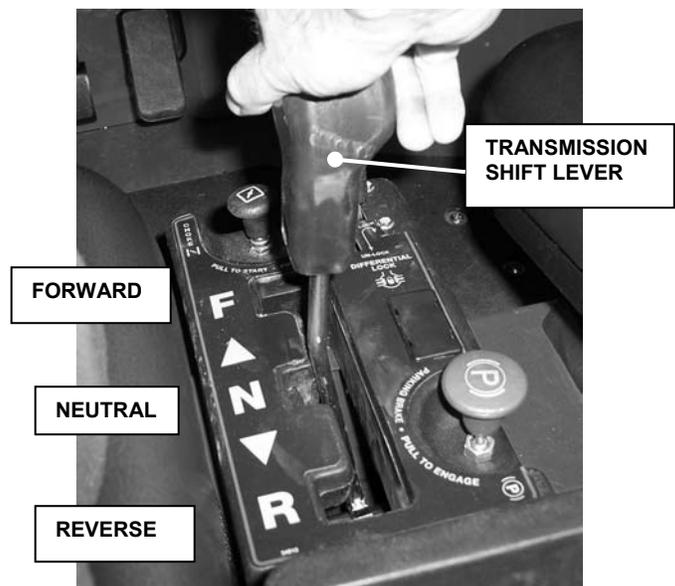

FIGURE 2.4
2.2.3. Transmission Shift Lever. The shift lever has three positions. It controls the direction of travel only (not speed). Move the shift lever to the front slot for forward (F). Move the shift lever to the back slot for reverse (R). Place the shift lever in the center slot for neutral (N). See Figure 2.4. The shift lever must be placed in neutral (and the brake pedal fully depressed) for the engine to crank and start. The machine must be at a complete stop and the engine at idle before shifting. Do not race engine and then shift into gear. Move the shift lever with a quick and positive motion to avoid grinding gears.